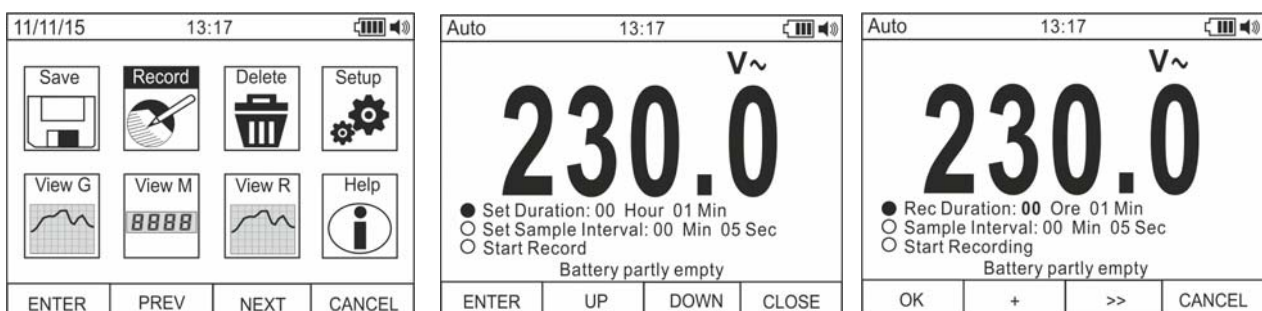

Fig. 10: Setting data recording
3. Use the **F2** or **F3** key to select symbol “Record” and press the **F1** key (see Fig. 10 – left side).
6. Press the **F1 (OK)** key to confirm the settings or the **F4 (CANCEL)** key to go back to editing (see Fig. 10 – right side).